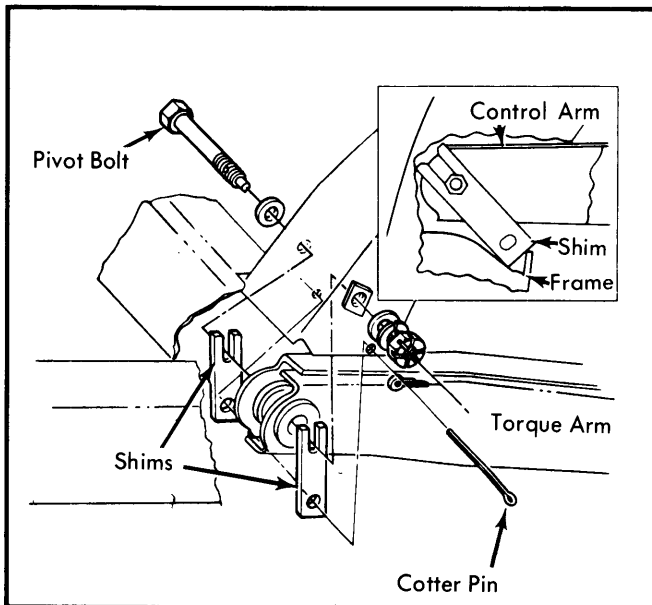

Fig. 30 Rear Suspension Toe-in Shims (Corvette)
2) Shims are slotted to slide over bushing pivot bolt on either side. To adjust, loosen pivot bolt and position torque control arm to obtain specified toe-in. Shim the gap between torque control arm bushing and frame side inner wall. See Fig. 30.
3) Shim outboard gap as necessary to obtain solid stack-up. Then install cotter pin through shims. See Fig. 30. Tighten pivot bolt to 50 ft. lbs.